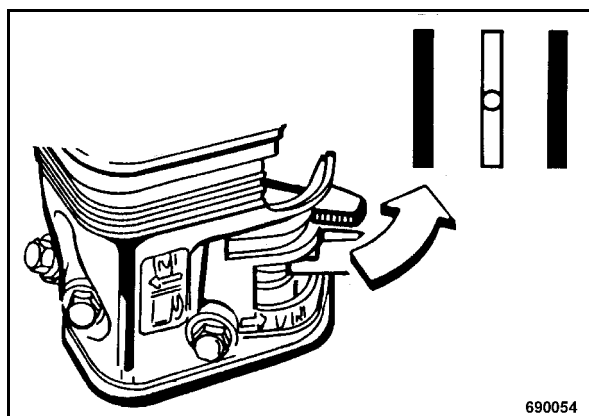

Fig. 21
- As the engine warms up open the lever (Fig. 21) of the choke slowly.